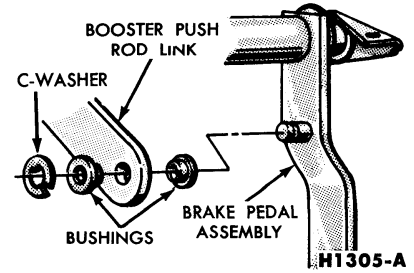

FIG. 13—Booster-to-Pedal Connections
1. Working inside the car below the instrument panel, disconnect the booster push rod link from the brake pedal assembly. To do this, remove the C-washer (retaining clip) and slide the push rod link and bushings off the pin that is integral with the pedal (Fig. 13). Remove the push rod link boot.
link boot, and connect the booster push rod link to the brake pedal assembly. To do this, lubricate the bushings with specified lubricant and install the bushings and the push rod link onto the pin that is integral with the pedal (Fig. 13). Secure the link to the pin with a C-washer.